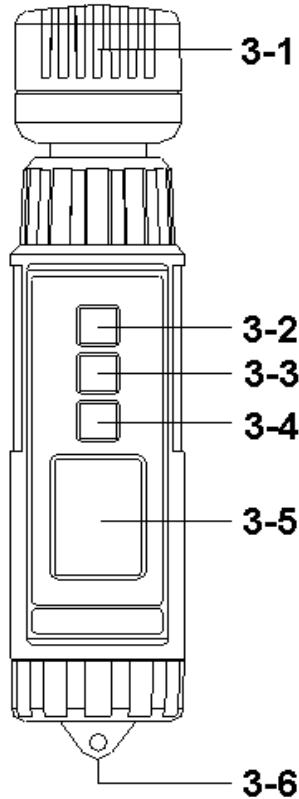

Fig. 1
- 1) Power on the meter by pressing the " Power Button " ( 3-2, Fig. 1 ) once,
- 2) Locate the " CO sensing head " ( 3-1, Fig. 1 ) to the position that intend to make the measurement. The upper Display ( 3-5, Fig. 1 ) will show the CO value in the unit of " PPM ". The lower Display ( 3-5, Fig. 1 ) will show the Temperature ( Air Temp. ) value in the unit of " °C " or " °F " .
- 1) During the measurement, press the " Hold Button " ( 3-3, Fig. 1 ) momentarily to hold the measured value. The LCD will show a " HOLD " symbol.
Press the " Alarm Button " ( 3-4, Fig. 1 ) once in sequence will present the Alarm setting value on the Display. Until the desired Alarm value show on the Display, release the " Alarm Button ", wait one second the Display will return to normal screen. If the measurement CO value > Alarm setting value, the Beeper will sound continuously.
- 2) Press the " Hold Button " ( 3-3, Fig. 1 ) continuously, use another finger power ON the meter ( press the " Power Button " once ), until the Temp. unit ( °C or °F ) is presented on the Display then release the " Hold Button ", the Temp. unit will change From °C to °F ( or °F to °C ) with default.
Put the meter into the clean air environment ( not contain any CO value ), power on the meter by pressing the " Power Button " ( 3-2, Fig. 1 ), wait about 30 seconds to warm up the meter.
If the display not show " Zero " CO value, then pressing " Alarm Button " ( 3-4, Fig. 1 ) continuously at least five seconds will offset the display value and show " 0 PPM ".
- 3) To change the batteries, open ( rotate clockwise direction ) the " Battery Cover " ( 3-6, Fig. 1 ).
- 4) Make sure the " Battery cover " (3-6, Fig 1) is secured after changing the batteries.